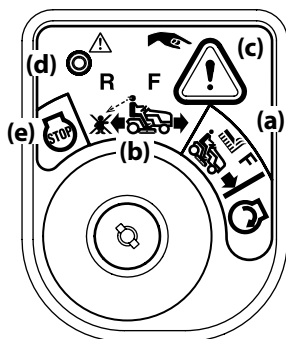

Figure 3-1
2. Turn the key from the NORMAL MOWING  (a) position to the REVERSE CAUTION MODE  (b) position of the ignition module. See Figure 3-1.
3. Press the REVERSE PUSH BUTTON  (c) at the top, right corner of the ignition module. The red indicator light (d) at the top, left corner of the ignition module will be ON while activated. See Figure 3-1.